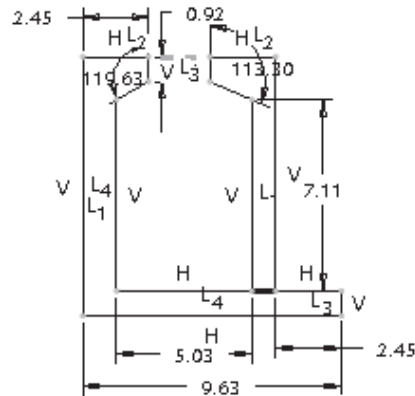

Figure 2-31 Sketch after dimensioning
- Dimension the required entities and then modify the dimensions of the sketch, refer to Figures 2-31 and 2-32.
8. Select the vertex that is joining lines C and D and the vertex that is joining lines J and K. Both the vertices are aligned horizontally, as shown in Figure 2-31.
Figure 2-31 shows the sketch after applying dimensions. If your sketch does not have all dimensions shown in this figure, apply them using the **Normal** button.